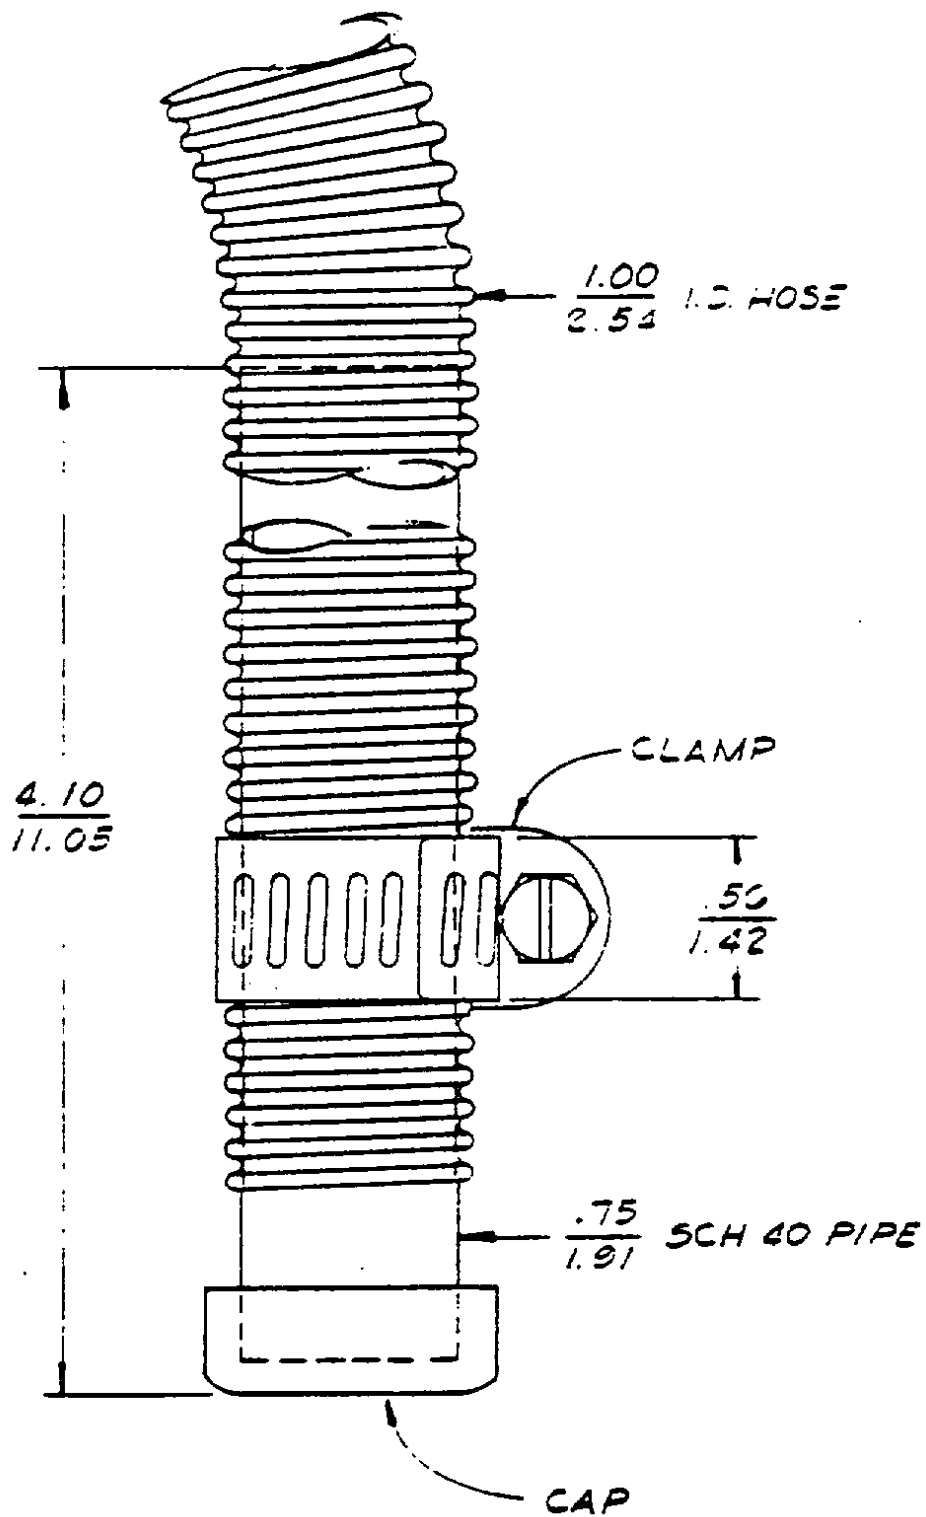

Figure 4-7. Hose Plug for Unused Line (by others), SKC-148128
- 4.14 Unused hose inlets to the detecting cabinet must be plugged as shown in Figure 4-7.